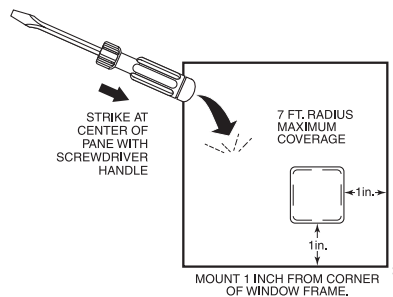

Figure 2
1. Before the transmitter is permanently mounted, determine the optimum mounting location. For best sensitivity, the sensor should be mounted one-inch from the corner edge of the window frame (see Figure 2).